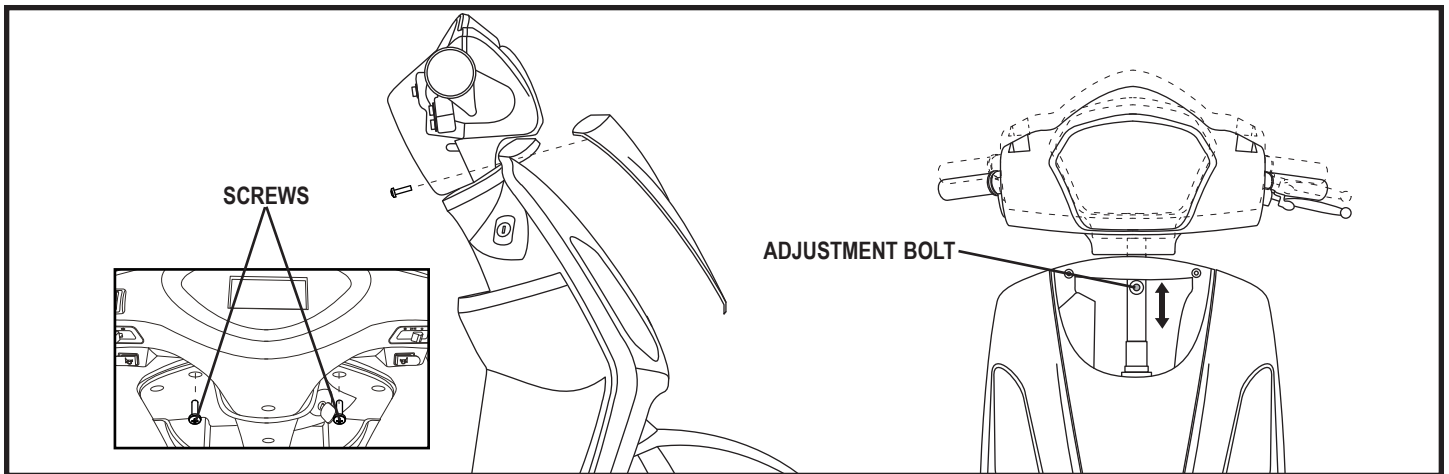

Figure 14. Tiller Height Adjustment
1. Remove the two screws located on the tiller. **See figure 14.**
2. Remove the front shroud. Raise the rubber boot and locate the adjustment bolt. **See figure 14.**
1. Insert the threaded end of the mirror holder into the opening and rotate it clockwise until snug. **See figure 14.**